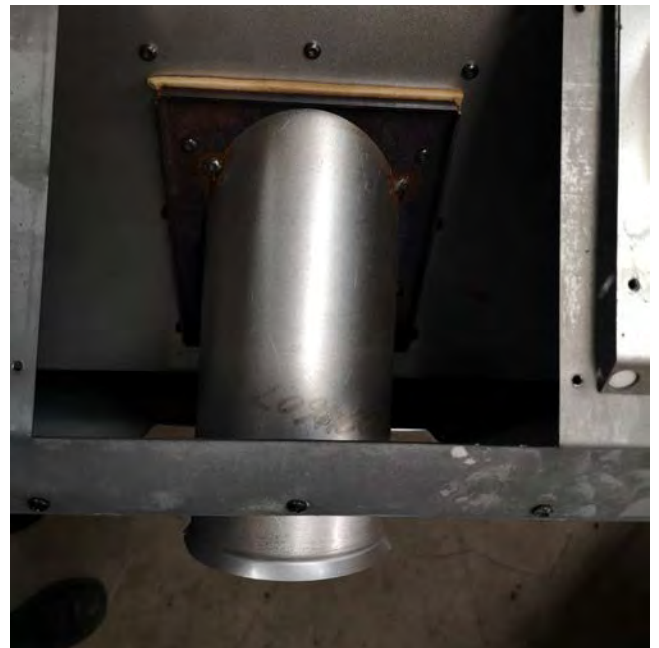

Figure 23: Vent Conv. 4.
- Carefully remove the flue and the gasket. Rotate the flue to point out the rear of the fireplace (Figure 23). After ensuring the gasket is in place install and tighten the screws.